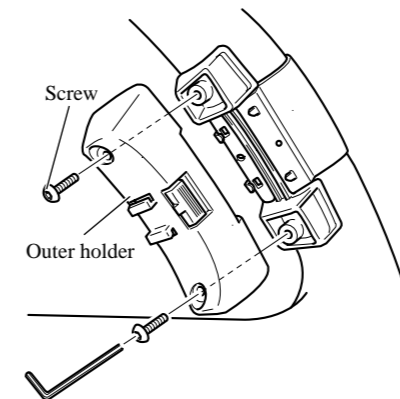

Fig. 17
**3. Install outer holder on the inner holder and secure with screws. (Fig. 17)**